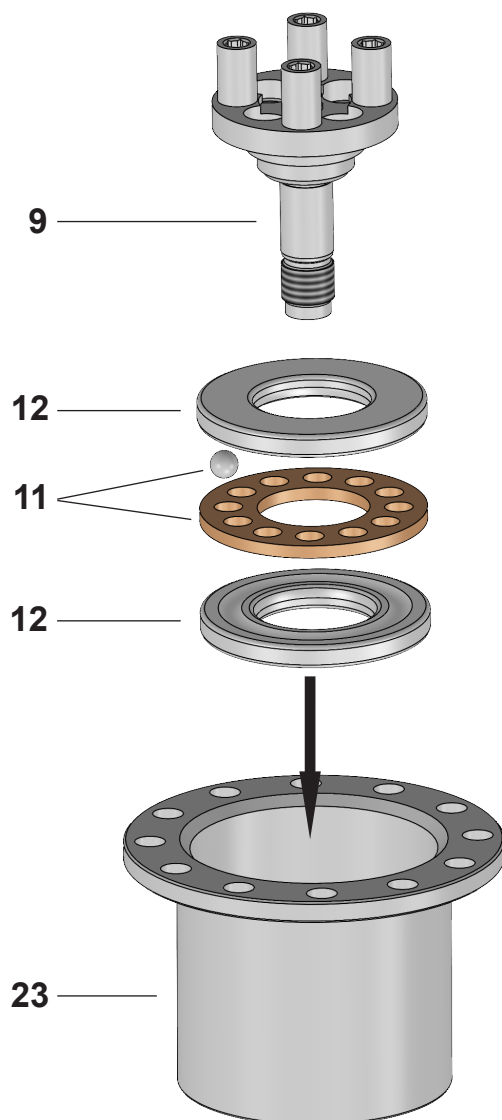

Fig. 9.17
- 9.4.10) Insert the following inside the bottom casing pos.23 in the order shown: a slewing bearing pos.12 with the seat of the balls facing up, cage pos.11 with the twelve balls and a second slewing bearing pos.12 with the seat of the balls facing down (Fig.9.17).